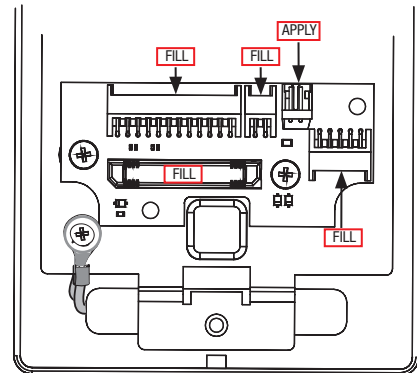
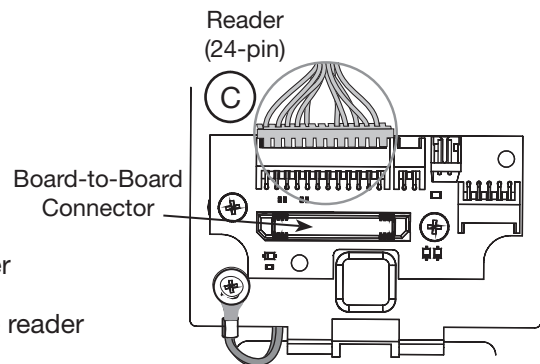

Fig. 10a
Fig. 10b
- Ensure all connector pins and contacts (Fig. 10a) are covered - do not overfill or over-apply\*\*
IMPORTANT: Do not run wires through bottom hole in plate (Fig. 10a, b) - it will damage wires and the controller connector. Route wires around flange, do not route wires through the flange hole (Fig. 10b).
#### Secure the following connectors (Fig. 10b, c):
- Secure the mounting assembly while ensuring proper alignment of outside reader and fully tighten the (2) through-bolts on the inside of the door to secure the reader and plate to the door
- Secure the 24-pin card reader connector (Fig. 10b, c).